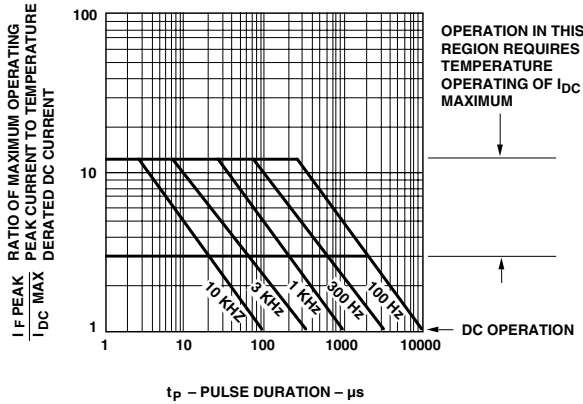

Figure 7. Maximum Tolerable Peak Current vs. Pulse Duration – Green.
7. See Figure 7 to establish pulsed conditions.